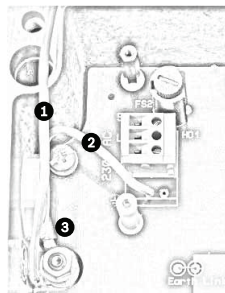

Figure 4.4 Mains input with shield removed, showing terminal block HD1 before wiring
11. Remove the brass nut and copper washer from the earth termination post (item 3, *Figure 4.4*); set these aside.
13. Insert the earth core from the mains cord (item 2, *Figure 4.4*) into the crimp portion (size M6, UL-certified) of the ring terminal and crimp it in place.